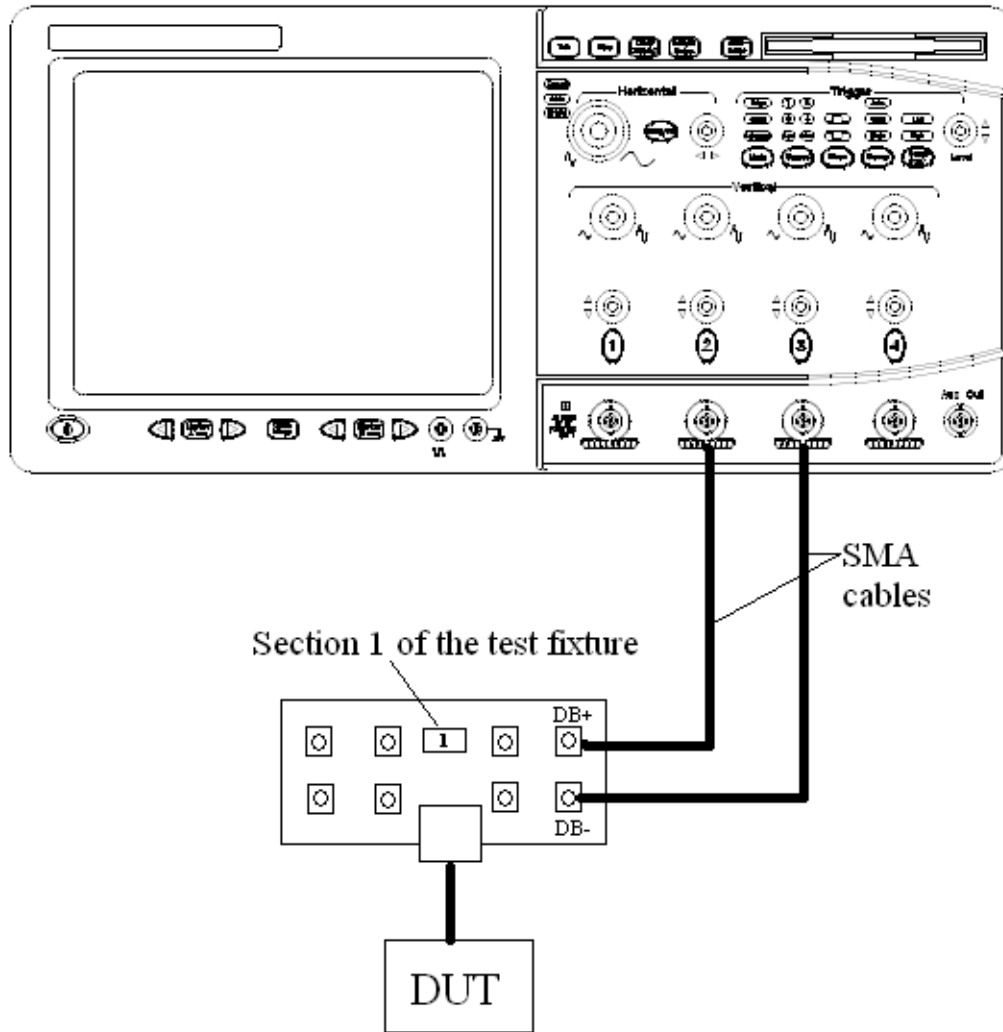

Figure 21 Probing for 1000 Base-T Jitter MASTER Unfiltered without access to TX_TCLK
When performing 1000 Base-T jitter tests for the DUT without providing access to the internal TX_TCLK, you can view the connection setup under the application's "Connection" tab (also shown in Figure 21).
- 2 Connect one end of two short SMA-SMA cables to the SMA test points for the pair you are testing (A, B, C, or D) on fixture 1 and the other end to the Channel 3 and Channel 4 of the oscilloscope. (The channel shown in Figure 21 is just an example.)
As indicated in Figure 21, only the MDI data signal is connected to the oscilloscope. The algorithm proceeds as follows:
As indicated in Figure 21, only the signal at MDI is connected to the oscilloscope. The algorithm proceeds as follows: